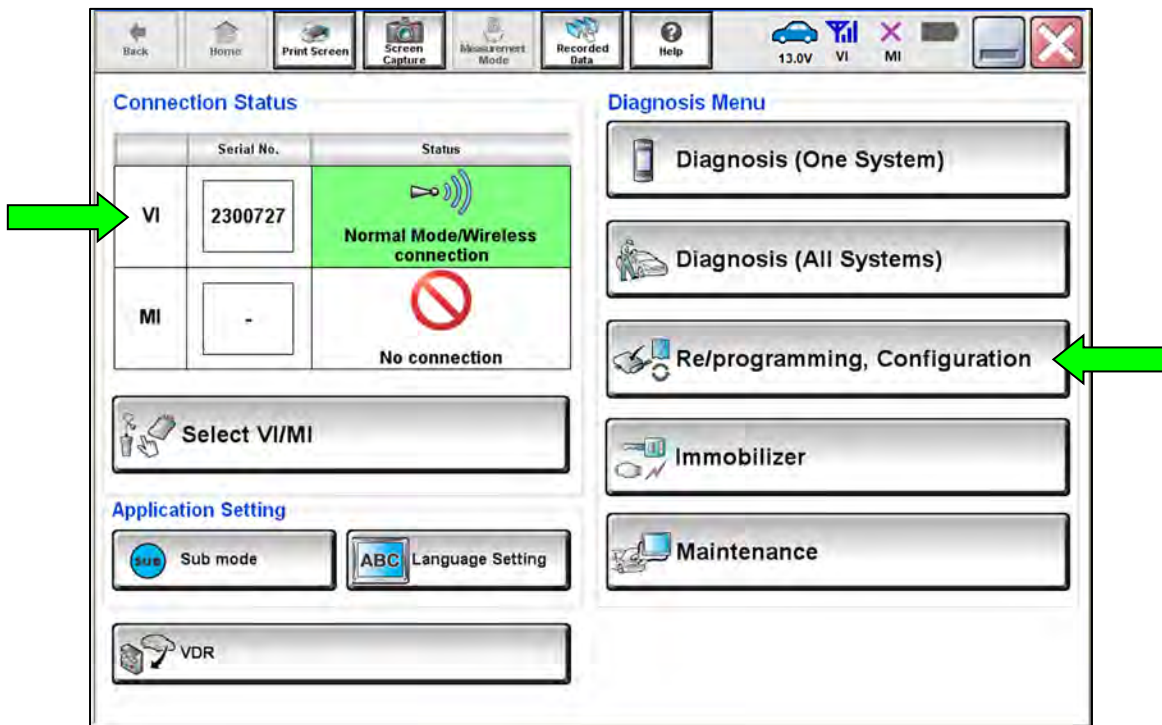

Figure 1
1. Connect the Vehicle Interface (VI) to the vehicle.
- The serial number will display when the VI is recognized (Figure 1).